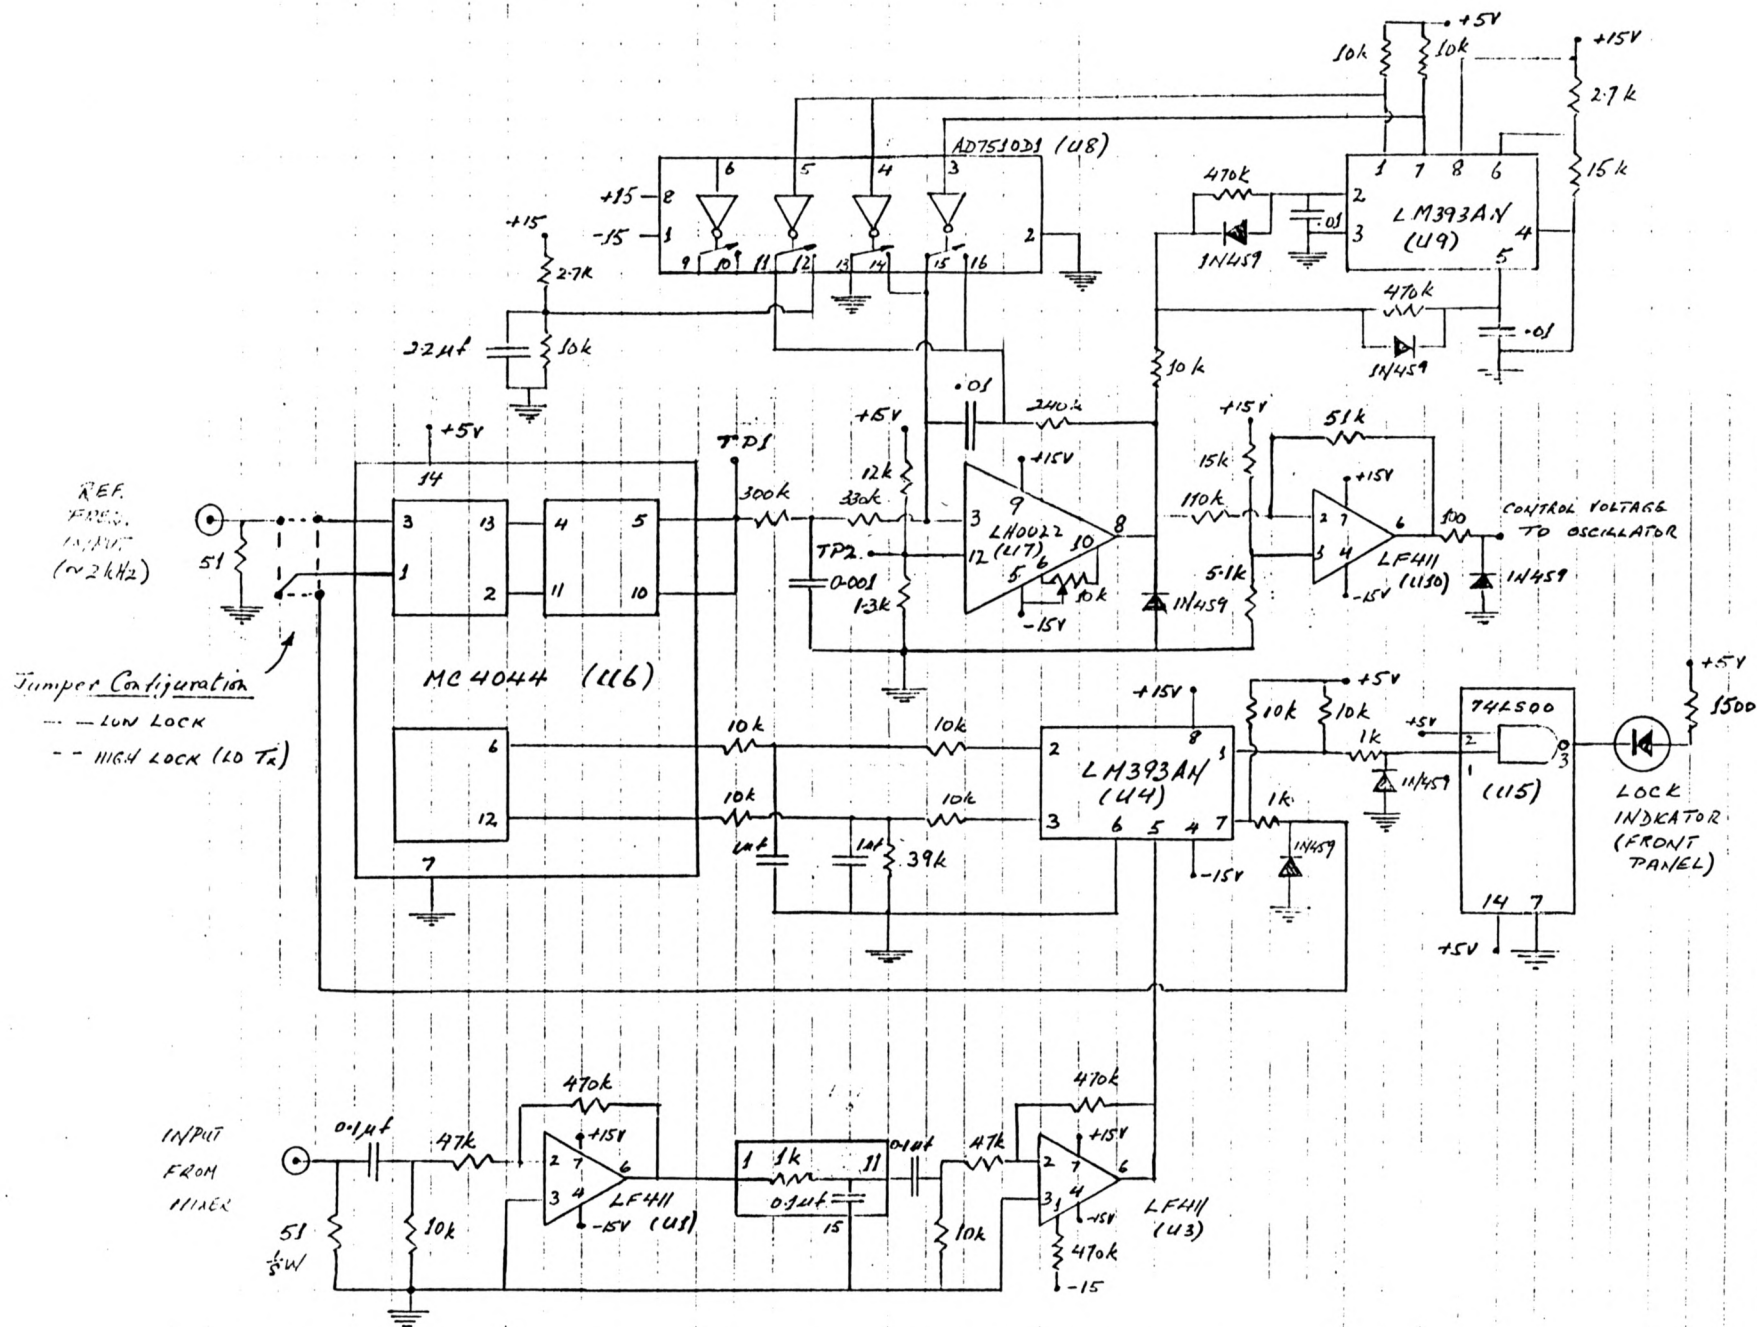

Fig. 6 Circuit diagram of phase lock unit used in the LO Transmitter module. This unit is designed for use with input signals near 2 kHz.
A circuit diagram of the unit is given in Fig. 6. A digital phase detector type MC4044, U6 in the diagram, receives inputs at 2.083 kHz on pins 1 and 3. One of these is the beat frequency between the high frequency reference and the VCXO frequency that comes from the I-port of the phase-lock mixer, and the other is a TTL-level squarewave at 2.083 kHz that is generated in the Round-Trip Monitor module. The output of the MC4044 (pins 5 and 10) feeds an integrating amplifier, LH0022 (U7), the output of which goes to the frequency control of the VCXO via a buffer amplifier (U10). The output of the MC4044 varies over a range of approximately 0.8 to 2.1 volts as the relative phase on its inputs varies. Pin 12 of the LH0022 is held at 1.5 volts, and the action of the loop drives the MC4044 to equalize the input voltages of the LH0042.
(4) At the output of the two-way power splitter for the 500 MHz signal the 500 MHz level should be 11-12 dBm. The second harmonic at 1 GHz should be about 28 dB down, and the other harmonics of 100 MHz should be at least 50 dB down. The output level at OSP connector J10 should be 11 ± 1 dBm.
(5) Check the input waveform to the phase-lock unit from the I-port of the phase-lock mixer. It should be 0.05-0.15 volts p-p, and will not be a clean sine wave because the VCXO should be sweeping in frequency. The output of the module at OSP connector J10 should be terminated for this measurement.
(6) Adjust the phase-lock unit following the steps described below. Refer to the circuit diagram in Fig. 6.
(g) On U3 (LF411) in Fig. 6 the purpose of the 470k resistor to -15 volts from pin 1 is to make the output of the amplifier slightly negative (about - 20 mv) when there is no input from the phase lock mixer. The output at pin 7 of comparator U4 is then TTL low, rather than indeterminate as it would be with zero output from U3. A TTL high on pin 7 of U4 with no signal from the phase lock mixer could cause the lock detector to give a false indication of lock. Check the U3 output level with no signal by removing the DIP header in the amplifier chain.